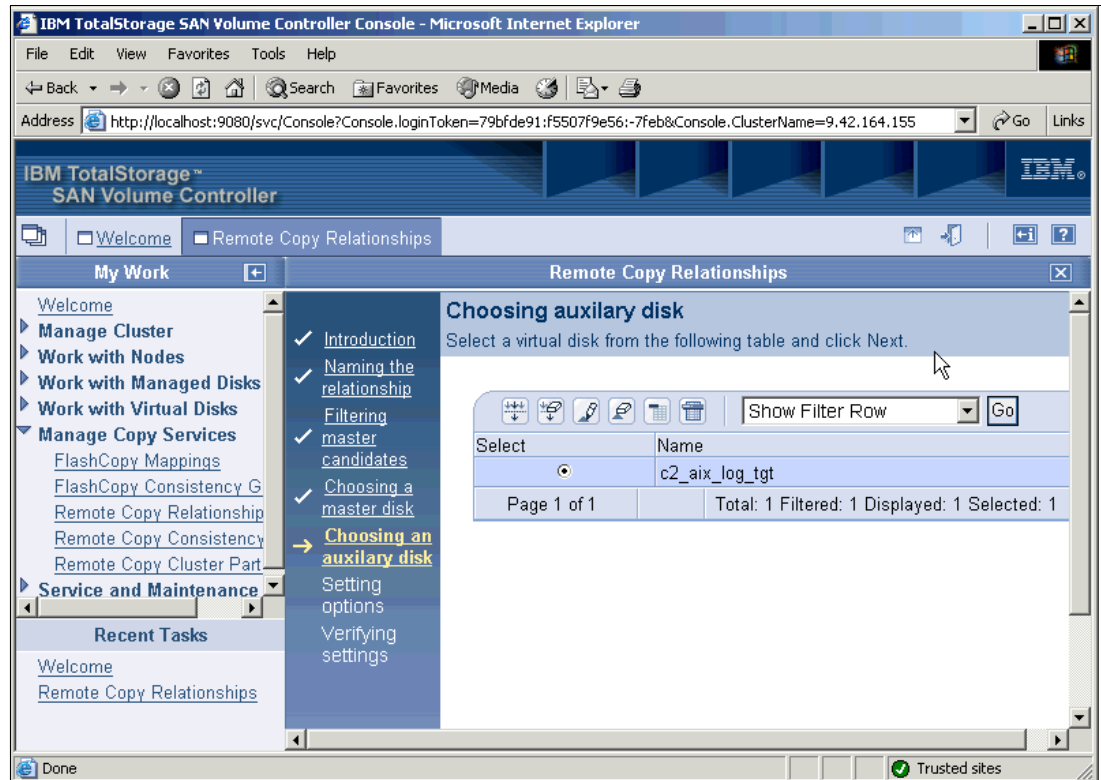

Figure 11-22 Choosing auxiliary disk
7. Select the auxiliary disk as shown in Figure 11-22.